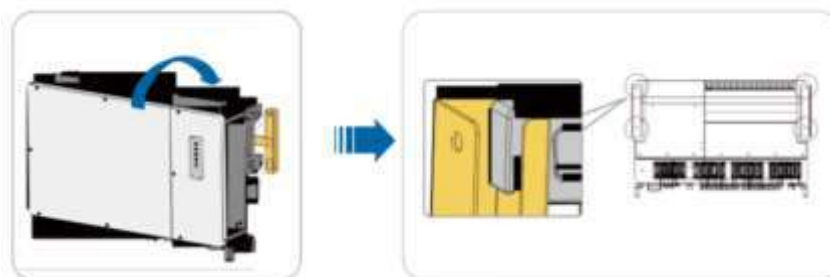

Fig. 4-13 Hang the inverter
- 6) Hang the inverter to the mounting-bracket and ensure that the mounting ears perfectly engage with the mounting-bracket (Fig. 4-13).
- 7) Hang the inverter to the mounting-bracket and ensure that the mounting ears perfectly engage with the mounting-bracket (Fig. 4-13).